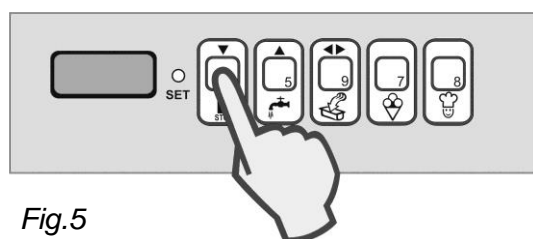

Fig. 5
8. To exit programming and save the changes press the “**STOP**” key (Fig. 5).